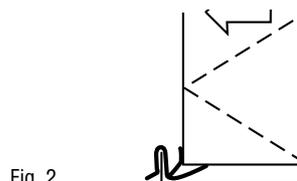

Fig. 2
- E. Insert the new filter cassettes along the guide rails as shown in Fig. 2, so that the sealing strip seals against the casing or the adjacent filter insert. Fit the cassette so that the arrows on the cassette and the casing of the unit section point in the same direction.
When inserting the new filter cassettes, secure the sealing tabs as shown in Fig. 2.
- G. Insert the new filter cassettes along the guide rails as shown in Fig. 2 and 3, so that the sealing strip seals against the casing or the adjacent filter insert. Fit the cassette so that the arrows on the cassette and the unit section point in the same direction.